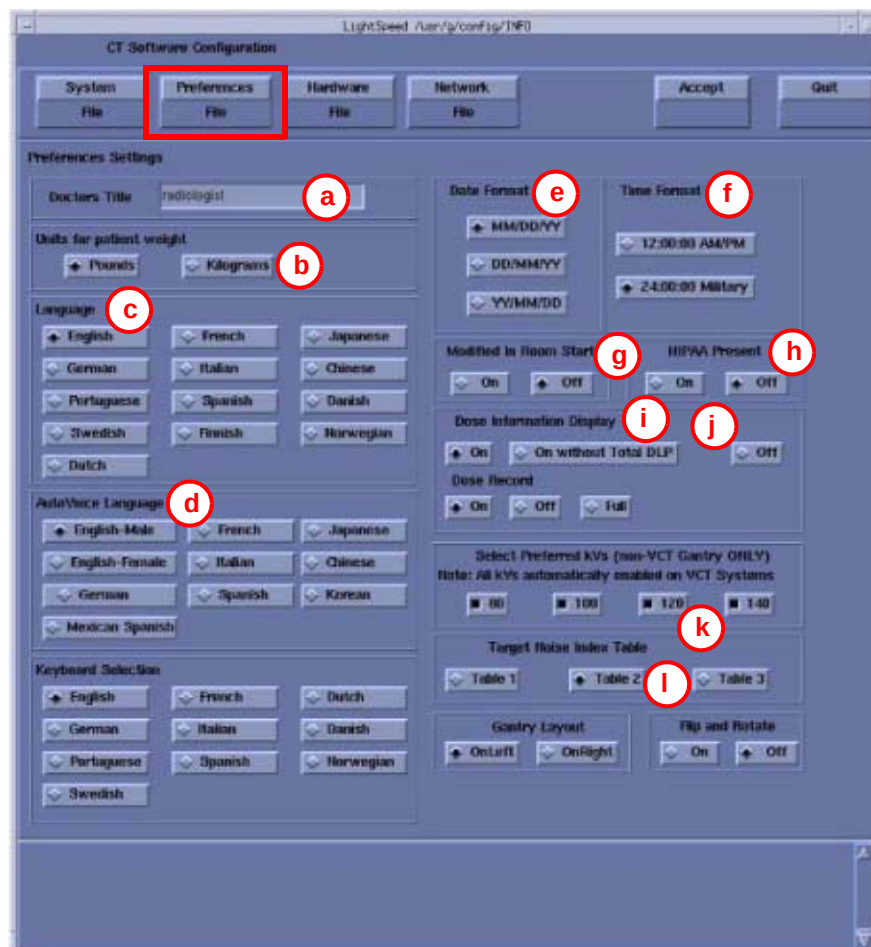

Figure 5-13 Preferences Setup Screen
- 6.) Select the PREFERENCES button to display the Preference Settings Screen as shown in Figure 5-13.